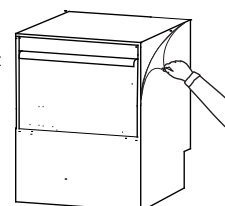

Fig.3
- 3- Remove the protection film of the appliance. (Fig. 3)